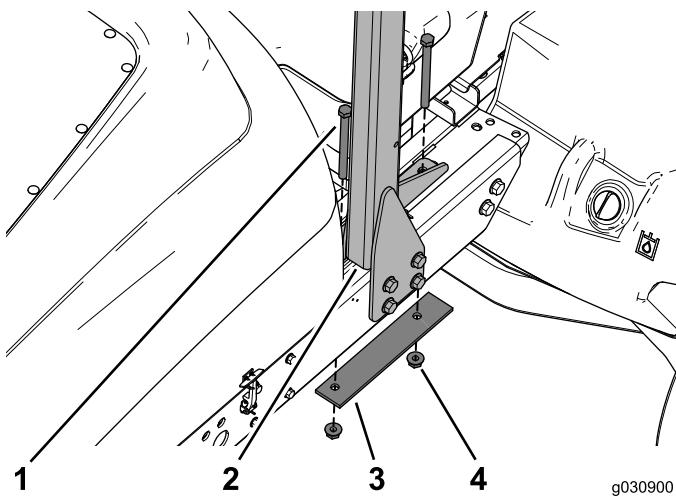

Figure 5
6. Arrange the wire-harness plate and battery compartment to allow you to remove the 2 bolts, reinforcement plate, and 2 flange nuts that secure the ROPS to the top of the frame (Figure 5). Set them aside.